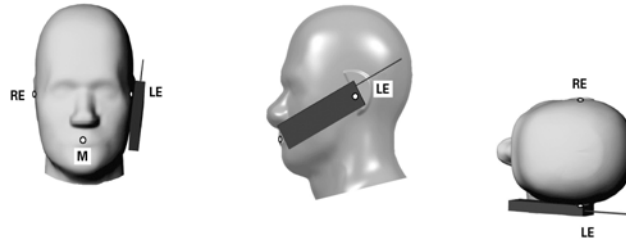

Figure 7.1 Front, Side and Top View of Cheek/Touch Position
1. Position the device close to the surface of the phantom such that point A is on the (virtual) extension of the line passing through points RE and LE on the phantom (see Figure 7.1), such that the plane defined by the vertical center line and the horizontal line of the device is approximately parallel to the sagittal plane of the phantom.